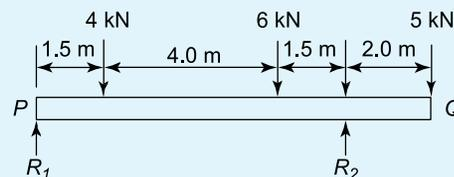

Figure 5.20
6. For the simply supported beam PQ shown in Figure 5.20, determine (a) the reaction at each support (b) the maximum force which can be applied at Q without losing equilibrium.